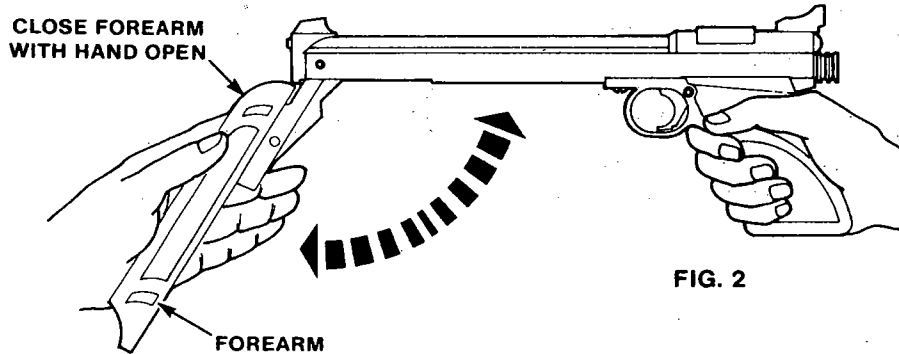

FIG. 2
- B. Open the forearm all the way until it stops. (Fig. 2). Close it with a smooth stroke. Don't pinch hand or fingers when the forearm closes. Keep your fingers off the trigger while pumping.